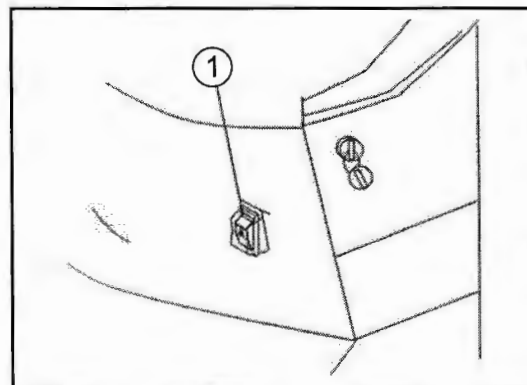

Fig. 13-2 - Hazard Warning Light Switch
11. Hazard Warning Light Switch - This switch turns the hazard warning lights on or off. Use these lights along with the headlights when traveling on public roads. The panel lights also flash at the same time as the hazard warning lights. (See Fig. 13-2).